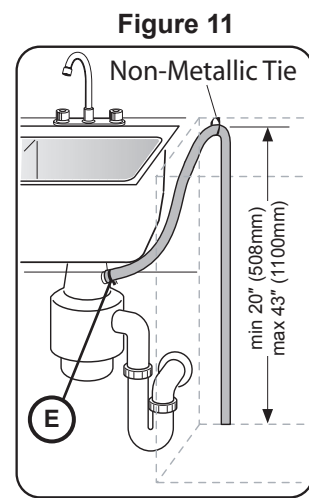

Figure 11
- 2 Directly to a disposer dishwasher drain connection, as shown in Figure 11.